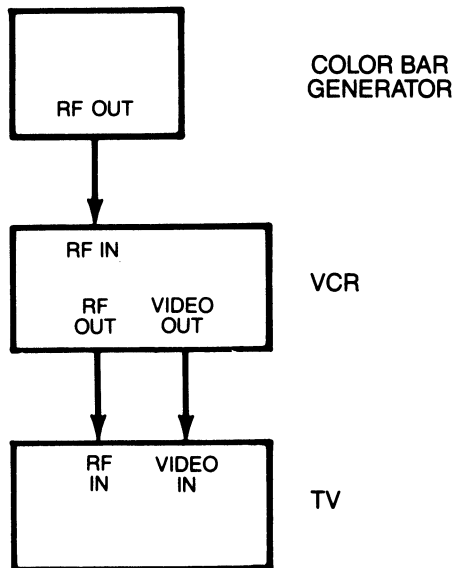

Fig. 5 - S-PIP Alignment Set-Up
1. Connect test equipment as shown in Figure 5.